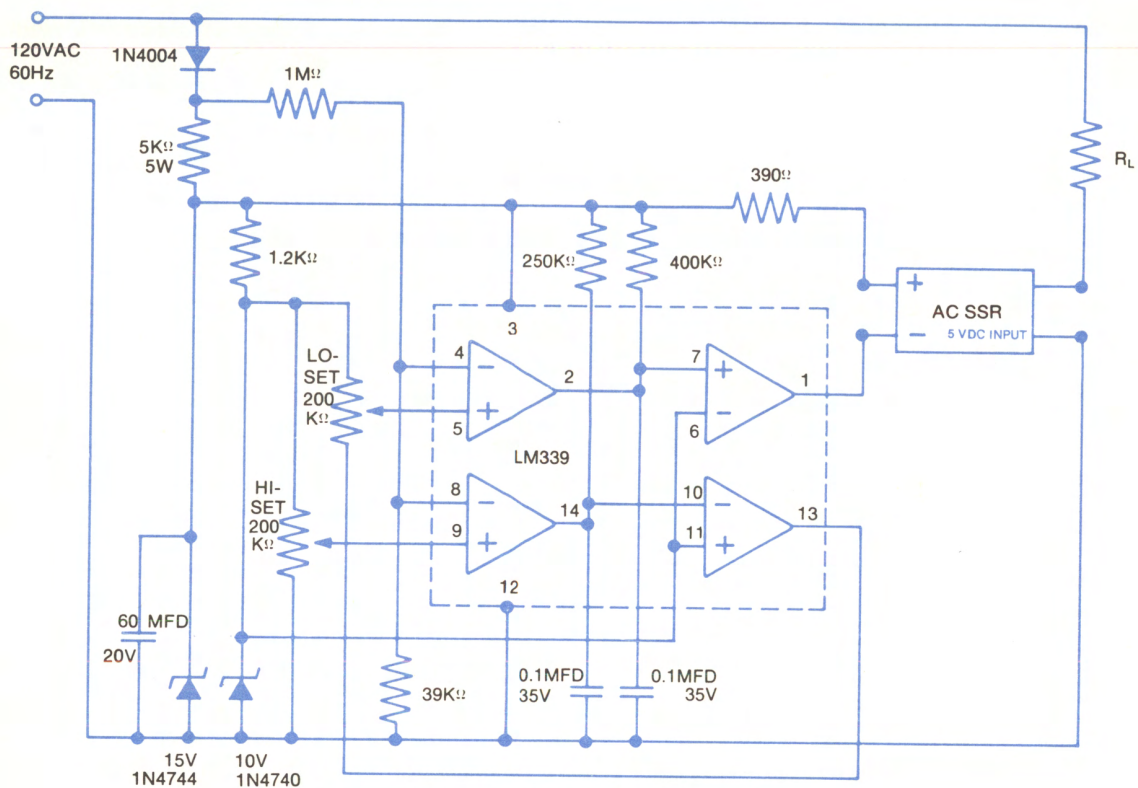

Fig. 2-25 Over/under voltage sensor.
2.6.11 Over/Under Voltage Sensor (Fig. 2-25)